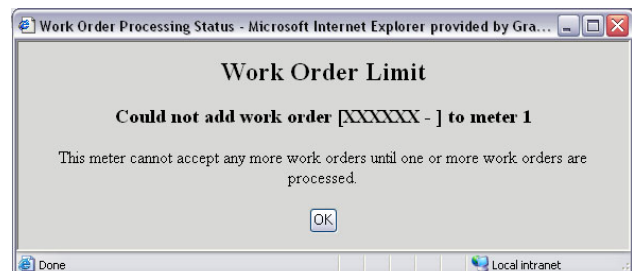

FIG. 58 Work Order Limit
1. **Work Order Limit** (FIG. 58). This message appears when the PC has five open work orders associated with the meter being addressed. No RF communication is attempted when this message appears. At least one work order will need to be processed or removed before a new one can be loaded.